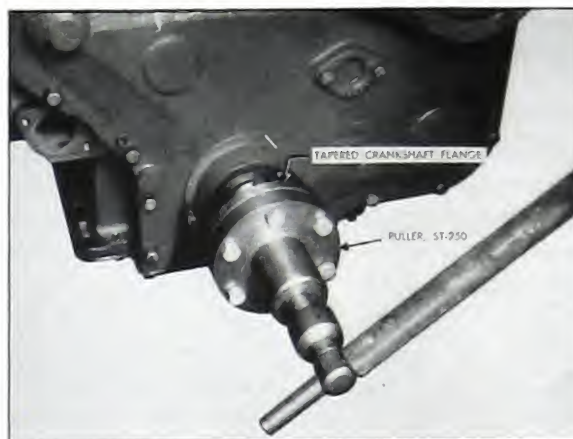

Fig. 1-7. Pulling tapered crankshaft flange
4. Pull the crankshaft flange from the tapered crankshaft with special puller, ST-250, as shown in Fig. 1-7. This puller will prevent distortion of the flange as it is removed.